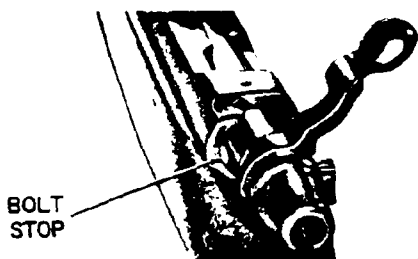

Fig. 1
**TO REMOVE BOLT** — Push safety forward to unlock bolt and raise bolt handle. Pull bolt rearward. Press down on front of bolt stop. Bolt stop is located in left rear of bolt channel in receiver (Fig. 1). Use small flat key or screw driver. Allow bolt to slide back and disassemble as bolt stop is passed; lift bolt from gun.
**CLEANING AND CARE** — **Caution:** Make sure rifle is empty of live ammunition (before cleaning). To make cleaning of barrel or bolt easier remove bolt from rifle. (See Fig. 1). Use a good petroleum solvent for cleaning of parts.